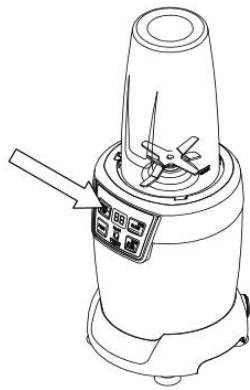
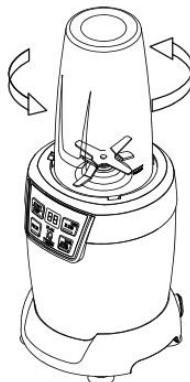

Fig 4
Fig 5
6. To remove the jar, ensure that the motor has stopped running. Then turn the jar counter clockwise. .(Fig. 4) and pull straight up to remove(Fig. 5)